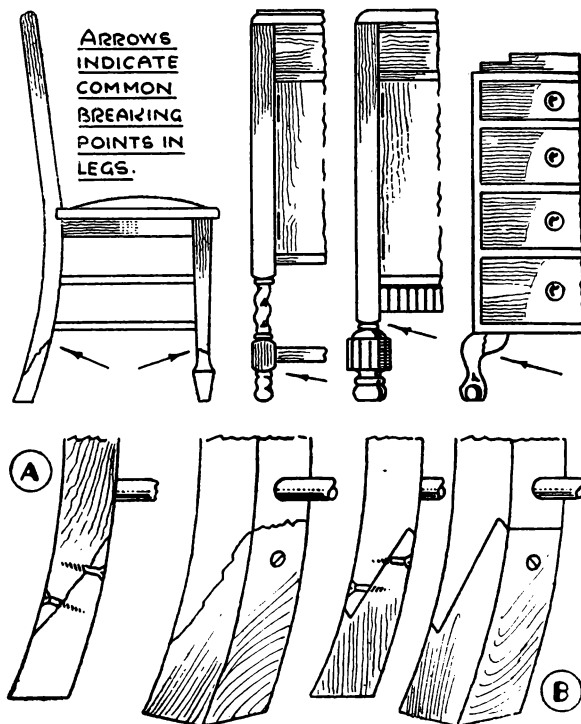

FIG. 1. WHERE FURNITURE LEGS USUALLY BREAK.
Plane up one face of the strip of hardwood and cross cut in order to form two pieces, Fig. 1. Bore a hole for the shank of the screw and countersink for the head. Care should be taken to see that the countersinking will permit of the head lying flush with the surface of the wood. Place the screw in position and, using the slot in the screw as a guide, form an indentation with the edge of the screw-driver on either side of the screw, the indentations being of sufficient length to accommodate the nail or piece of wire.
**F**IVE typical breakages are indicated by the arrows in Fig. 1. The same breakages may apply to many similar articles, so we shall confine ourselves to the five most common breaks and show the best way to deal with them.
**Back Chair Legs.**—Diagonal breaks invariably occur in the back legs of lightly-constructed chairs, as shown at A, Fig. 1. Such breaks are due to the short grain in the wood owing to the curved shape. If a fairly clean break it is only necessary to screw the parts together before gluing. The screws draw the pieces closer together than a bind of cord or the use of small fretwork cramps and they hold the parts firm.
In making the sill allow sufficient width to take the dish or tray safely so that there may be no danger of overbalancing. A stout ledge is sometimes used or a flap with bracket support. Another good result is obtained by fitting a bottom hinged door to the hatch so that when let down it provides good space for resting the service. Sliding doors appear to receive general favour and for a 24 ins. by 18 ins. size the design might be worked out with two doors to travel in grooves or on runners as in Fig. 1. Each door passes behind a thin neat length of vertical fillet which serves as a stop when opening the hatch. One length only of track is thus necessary, but should space sufficient for this not be available for this arrangement a single door can be used on the lines of Fig. 2.